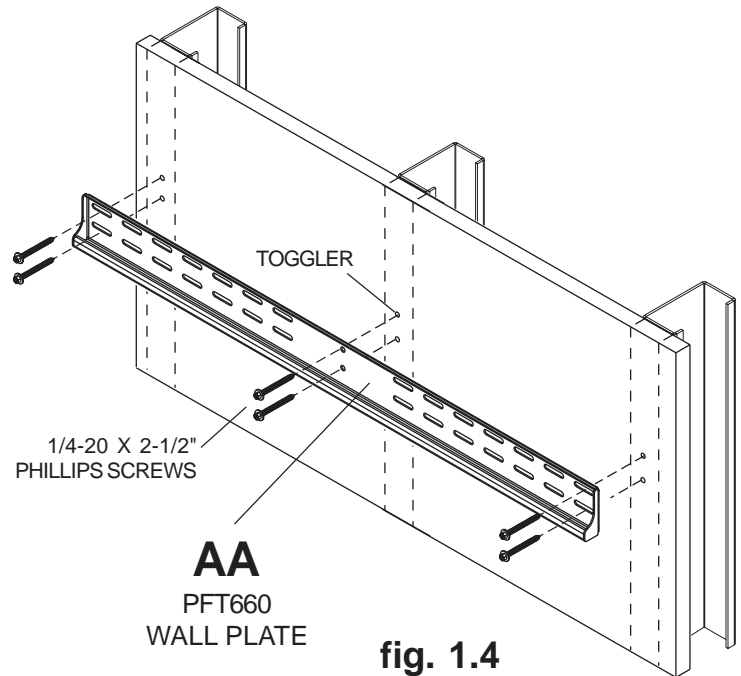

fig. 1.4
Loosely fasten mount assembly (AA) to wall using six 1/4-20 x 2-1/2" screws as shown in figure 1.4.